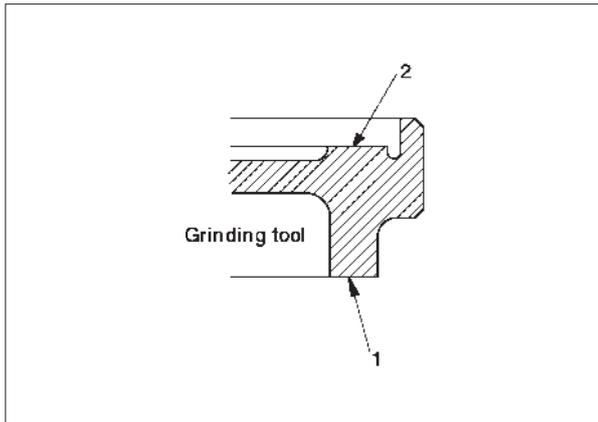

Fig. 1.
Note: The grinding tool is used for both grinding the groove in the liner flange (1) and the seating surface on the cylinder head (2), see fig. 1.